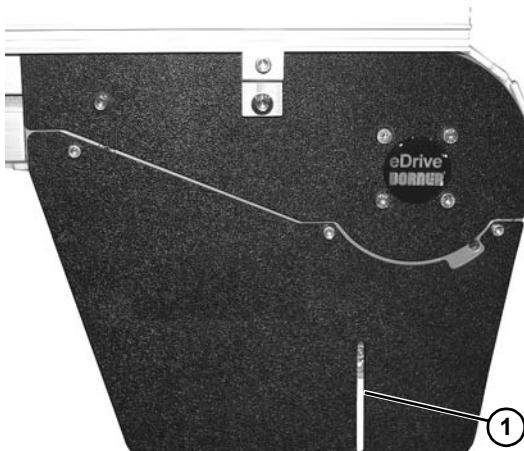

Figure 119
After shortening chain, ensure there is visible slack in chain (while running) at catenary drive tails. If chain is not visible in cover slot (Figure 119, item 1) inspect from end.